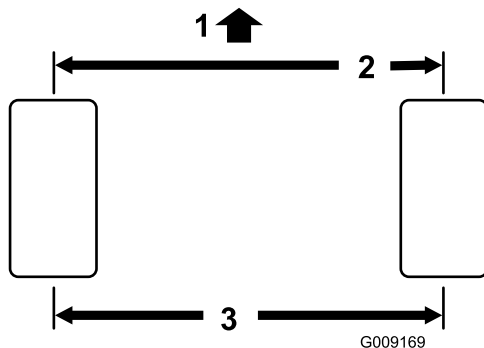

Figure 54
1. Measure the center-to-center distance (at axle height) at the front and rear of the steering tires (Figure 54).